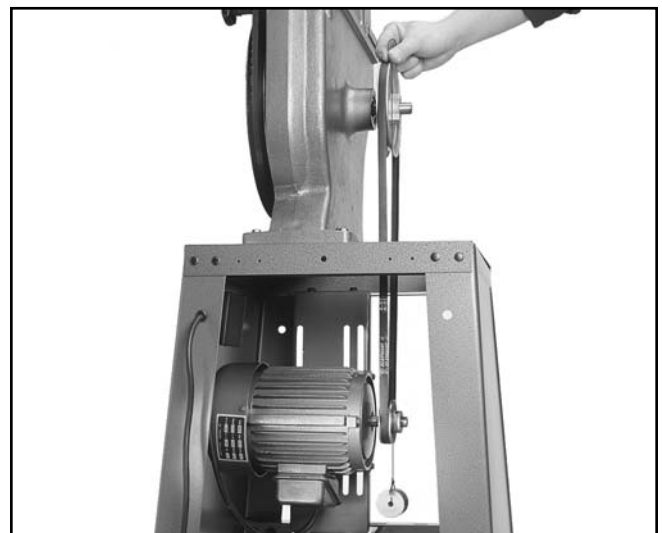

Figure 15. Aligning pulleys with plumb bob.
2. The upper and lower pulleys must be aligned with each other to prevent premature V-belt wear. Set a straight edge (or a plumb bob if saw is level) against the upper pulley. If the straightedge touches both pulleys evenly, the pulleys are aligned. If the straightedge does not touch both pulleys evenly, the pulleys are not aligned. **See Figure 15.**